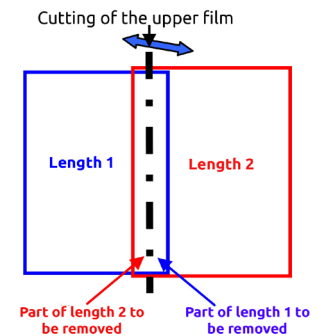

Fig.01
- › Continue, paying particular attention to the matching of your pattern(s). Overlap the upper length by approximately 3 cm (1.18 in.) over the length underneath. Using the cutter and the wallpaper ruler, make a cut in the middle of the seam, cutting through the two paper thicknesses but without damaging the substrate underneath. Remove the excess paper from the left and the right length. Close up the seam and apply the squeegee. (FIG. 01)